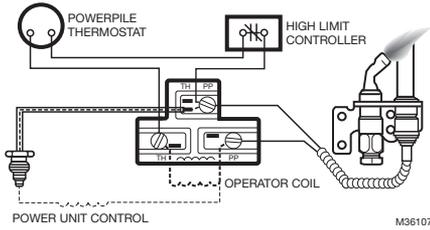

Fig. 6. Typical wiring connections for gas control with three-terminal operator.
3. Connect thermostat leads as shown in Fig. 6 or 7.